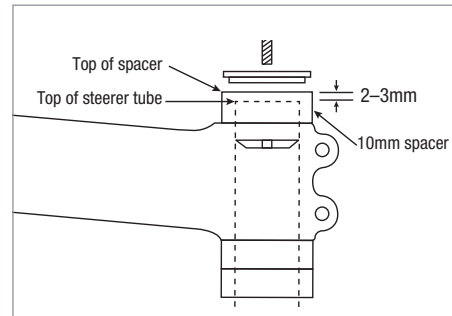

Figure 1
4. Always use a 10mm spacer above the stem. The top of the steerer should be 2–3mm below the top of the 10mm spacer (Fig. 1). If the steerer is too long with the desired amount of spacers installed, it must be cut and the headset star-nut or compression plug repositioned. If the steerer is too short, there won't be enough clamping surface for the stem to be installed securely. Remove spacers to adhere to dimensions listed above. Do not use if the above dimensions cannot be met.